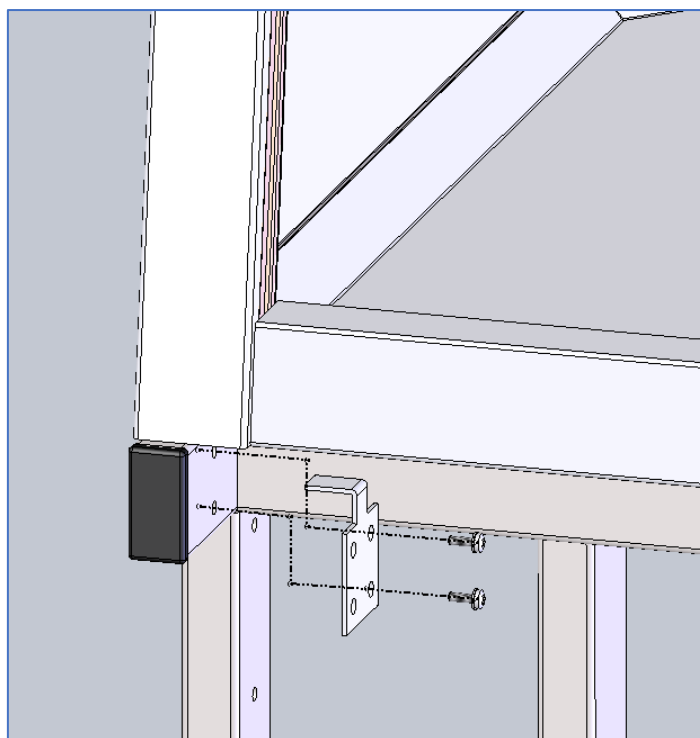

Fig 2.
- When fitted to the optional base stand or undercupboard, the cabinet should be fixed in place using the brackets and fixings provided. (fig 2)